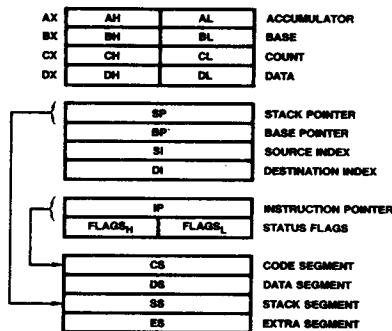

Figure 5. 8086 Register Model
Each bus cycle consists of at least four CLK cycles. These are referred to as T1, T2, T3 and T4 (see Figure 5). The address is sent from the processor during T1. Data transfer occurs on the bus during T3 and T4. T2 is used for changing the direction of the bus during read operations. In the event that a "NOT READY" indication is given by the addressed device, "Wait" states (TW) are inserted between T3 and T4. Each inserted "Wait" state is of the same duration as a CLK cycle. "Idle" states (TI) or inactive CLK cycles can occur between 8086 bus cycles. The processor uses these cycles for internal housekeeping.